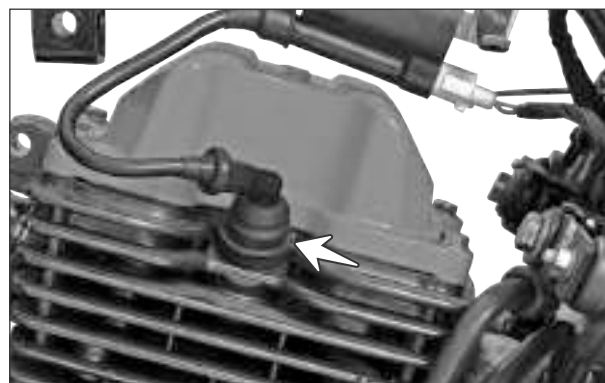

Fig. 2.34
- Disconnect the sparkplug cap and remove the spark plug. (Fig. 2.34)